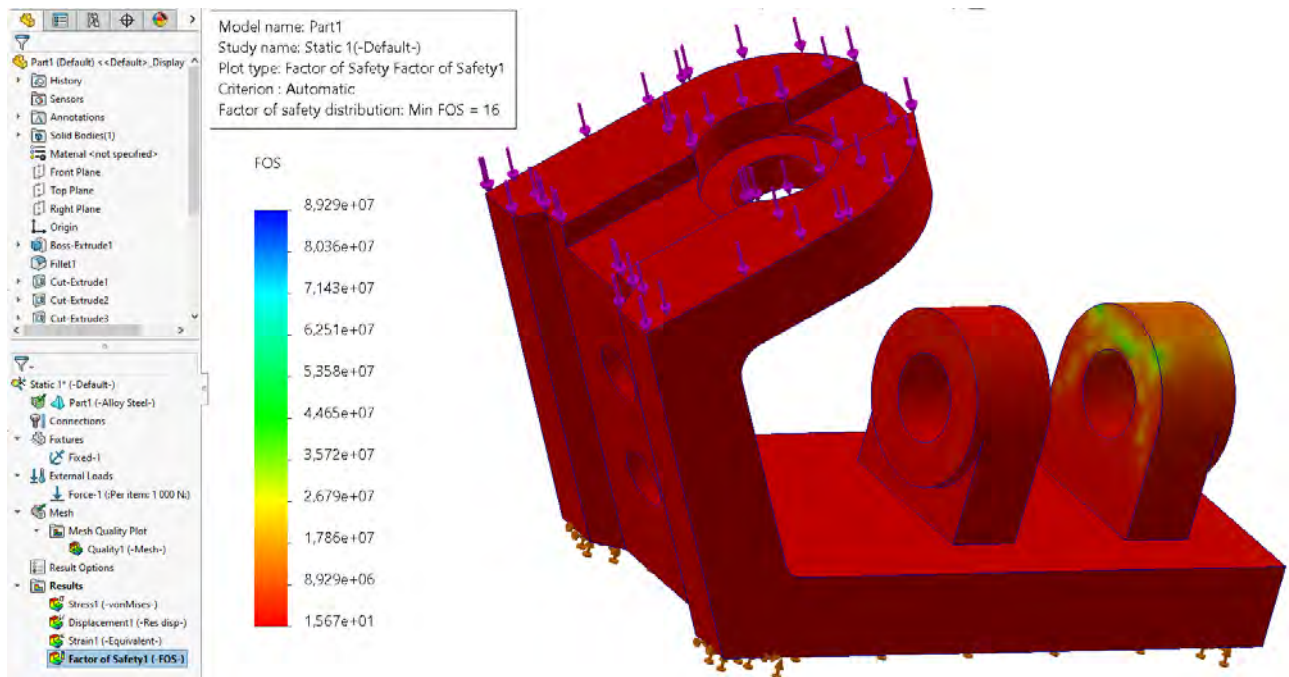

Figure 22 – Distribution of safety factor by model
5. A graph of the distribution of CPM according to the model will be created (see Fig. 22). The areas with the lowest CPM (most dangerous) will be marked in red (by default).